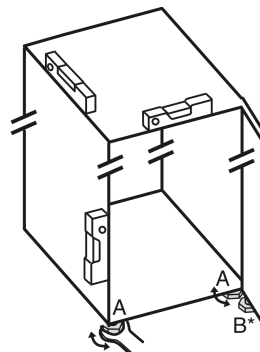

Fig. 4
- ▶ Unscrew the adjustable feet *Fig. 4 (A)* using the open-end wrench provided and a spirit level until the appliance is firmly aligned and level.
- ▶ Unscrew the adjustable foot *Fig. 4 (B)* at the swap bearing block using the open-end wrench provided until it rests on the floor.
- ▶ Turn the adjustable foot *Fig. 4 (B)* another 90°.